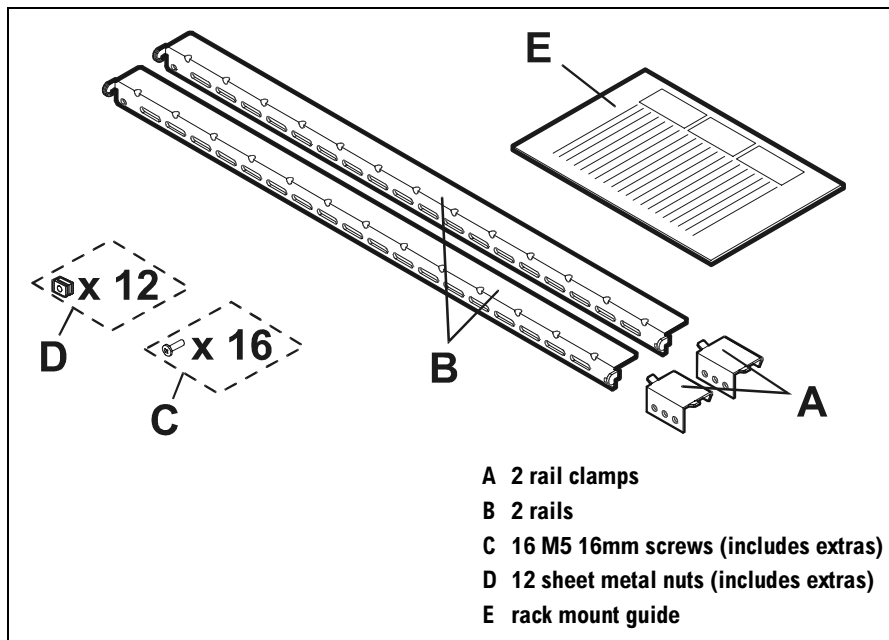

Figure 18 Rail Kit HP A5250A Contents
1. Unpack rail kit HP A5250A and verify the contents shown in Figure 18. If a part is missing, contact an HP sales representative.